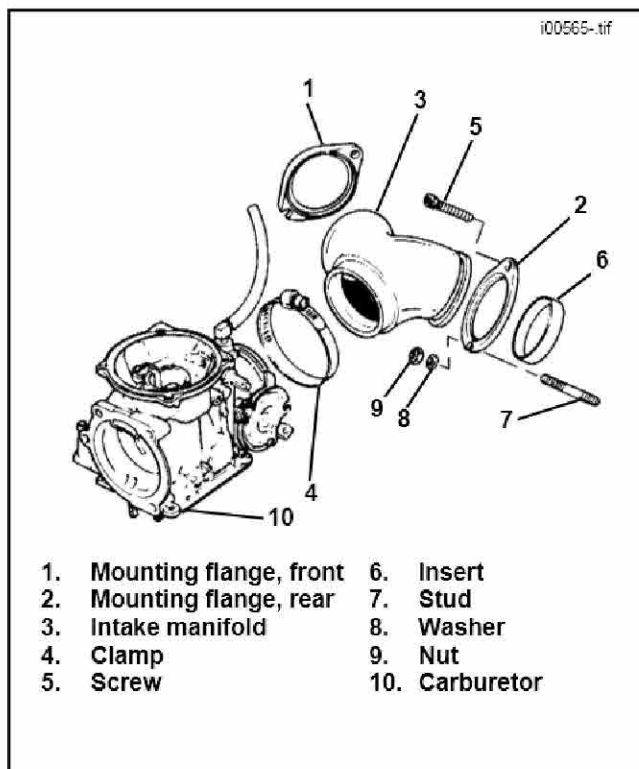

Figure 3. Carburetor Assembly
5. Remove two large Allen screws (4) and washers (5) that attach air cleaner backing plate to cylinder head.
6. See Figure 3. Loosen hose clamp (4) securing carburetor to manifold.